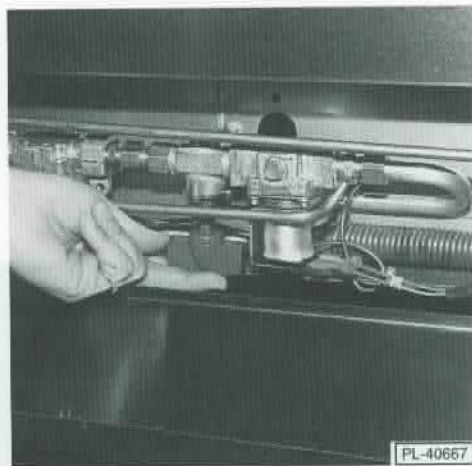

Fig. 15
2. Turn red gas valve ON (located behind the kick panel), purging the gas line of all air (Fig. 15). Turn gas valve and power switch OFF. Close oven door.